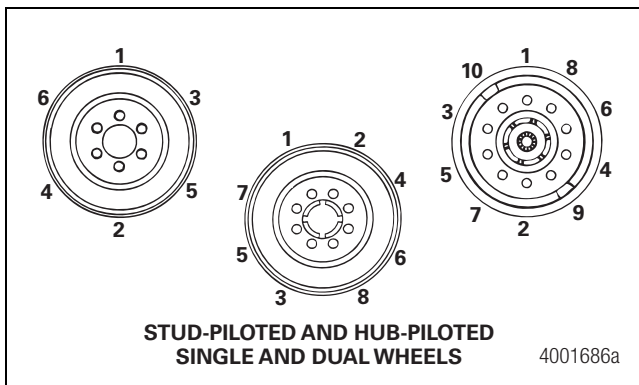

Figure 13.45
- Follow the disc wheel manufacturer's fastener tightening sequence when you install fasteners to help ensure a higher and more uniform clamp load. Figure 13.45. Always check fasteners at the wheel manufacturer's recommended service intervals.